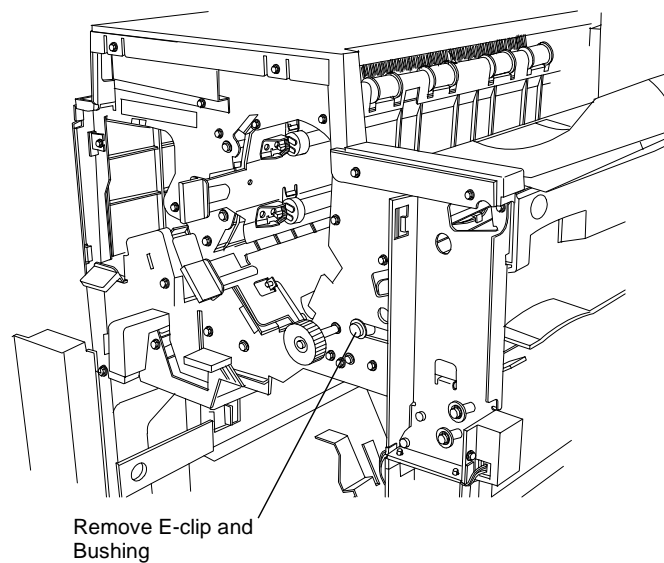

Figure 1 Removing E-clip and Bushing
7. Remove E-clip and Bushing from the Eject Pinch Shaft (Figure 1).